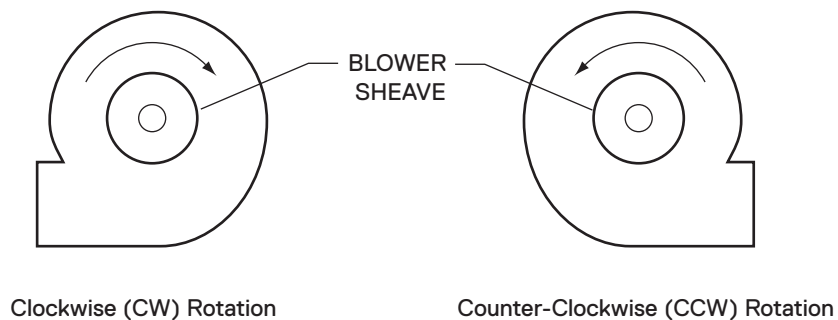

Figure 5
- 15 ☐ ☐ ☐ Apply power to the blower motor momentarily (bump start) to check for proper blower wheel rotation. If the blower is rotating in the wrong direction, reconnect the motor leads per the motor manufacturer's wiring schematic. **Blower rotation is determined by viewing the blower from the motor side of the blower, NOT from the inlet side.** After reconnecting the leads, repeat this step. See **Figure 5**.